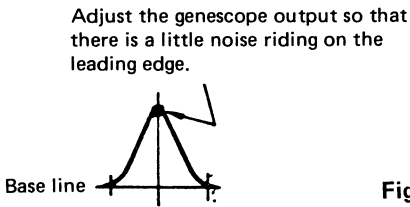

Fig. 5
1. Feed in a weak signal to TP102 from the genescope. Adjust T101 and T201 for maximum gain and the waveform indicated in Figure 5. If the center of the waveform cannot be lined up on the marker, adjust the right/left balance.